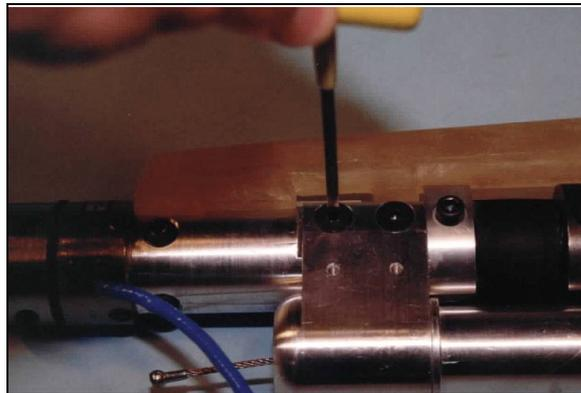

Figure 3.20 - Attach the Spring Tube to the Lower Tibia Tube
19. Attach the Achilles Spring Tube assembly to the rear of the Lower Tibia Tube using four 1/4-28 x 1/2" FHSCS {5/32}, as shown in **Figure 3.20**.